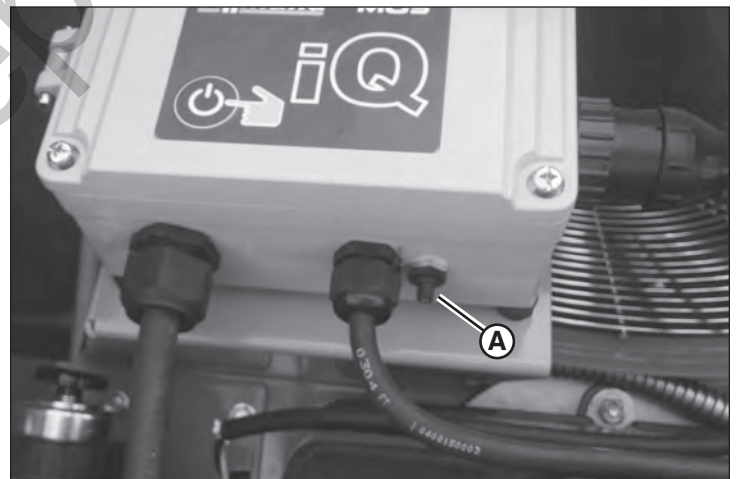

Figure 42
- Reset the main fan circuit breaker. Locate and press the circuit breaker reset button at the bottom of the control module (A, Figure 42).